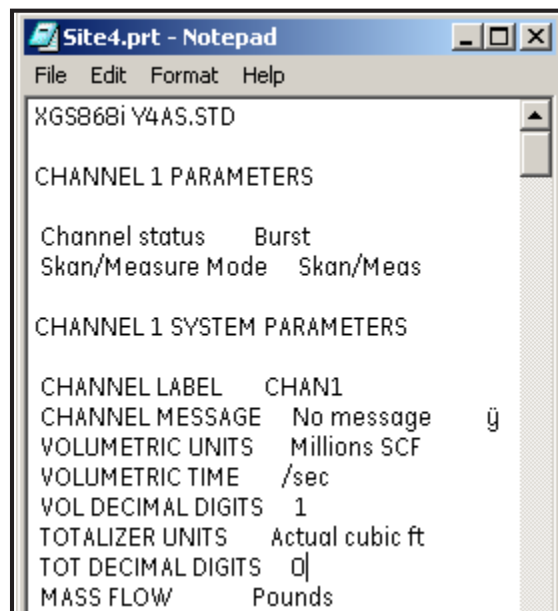
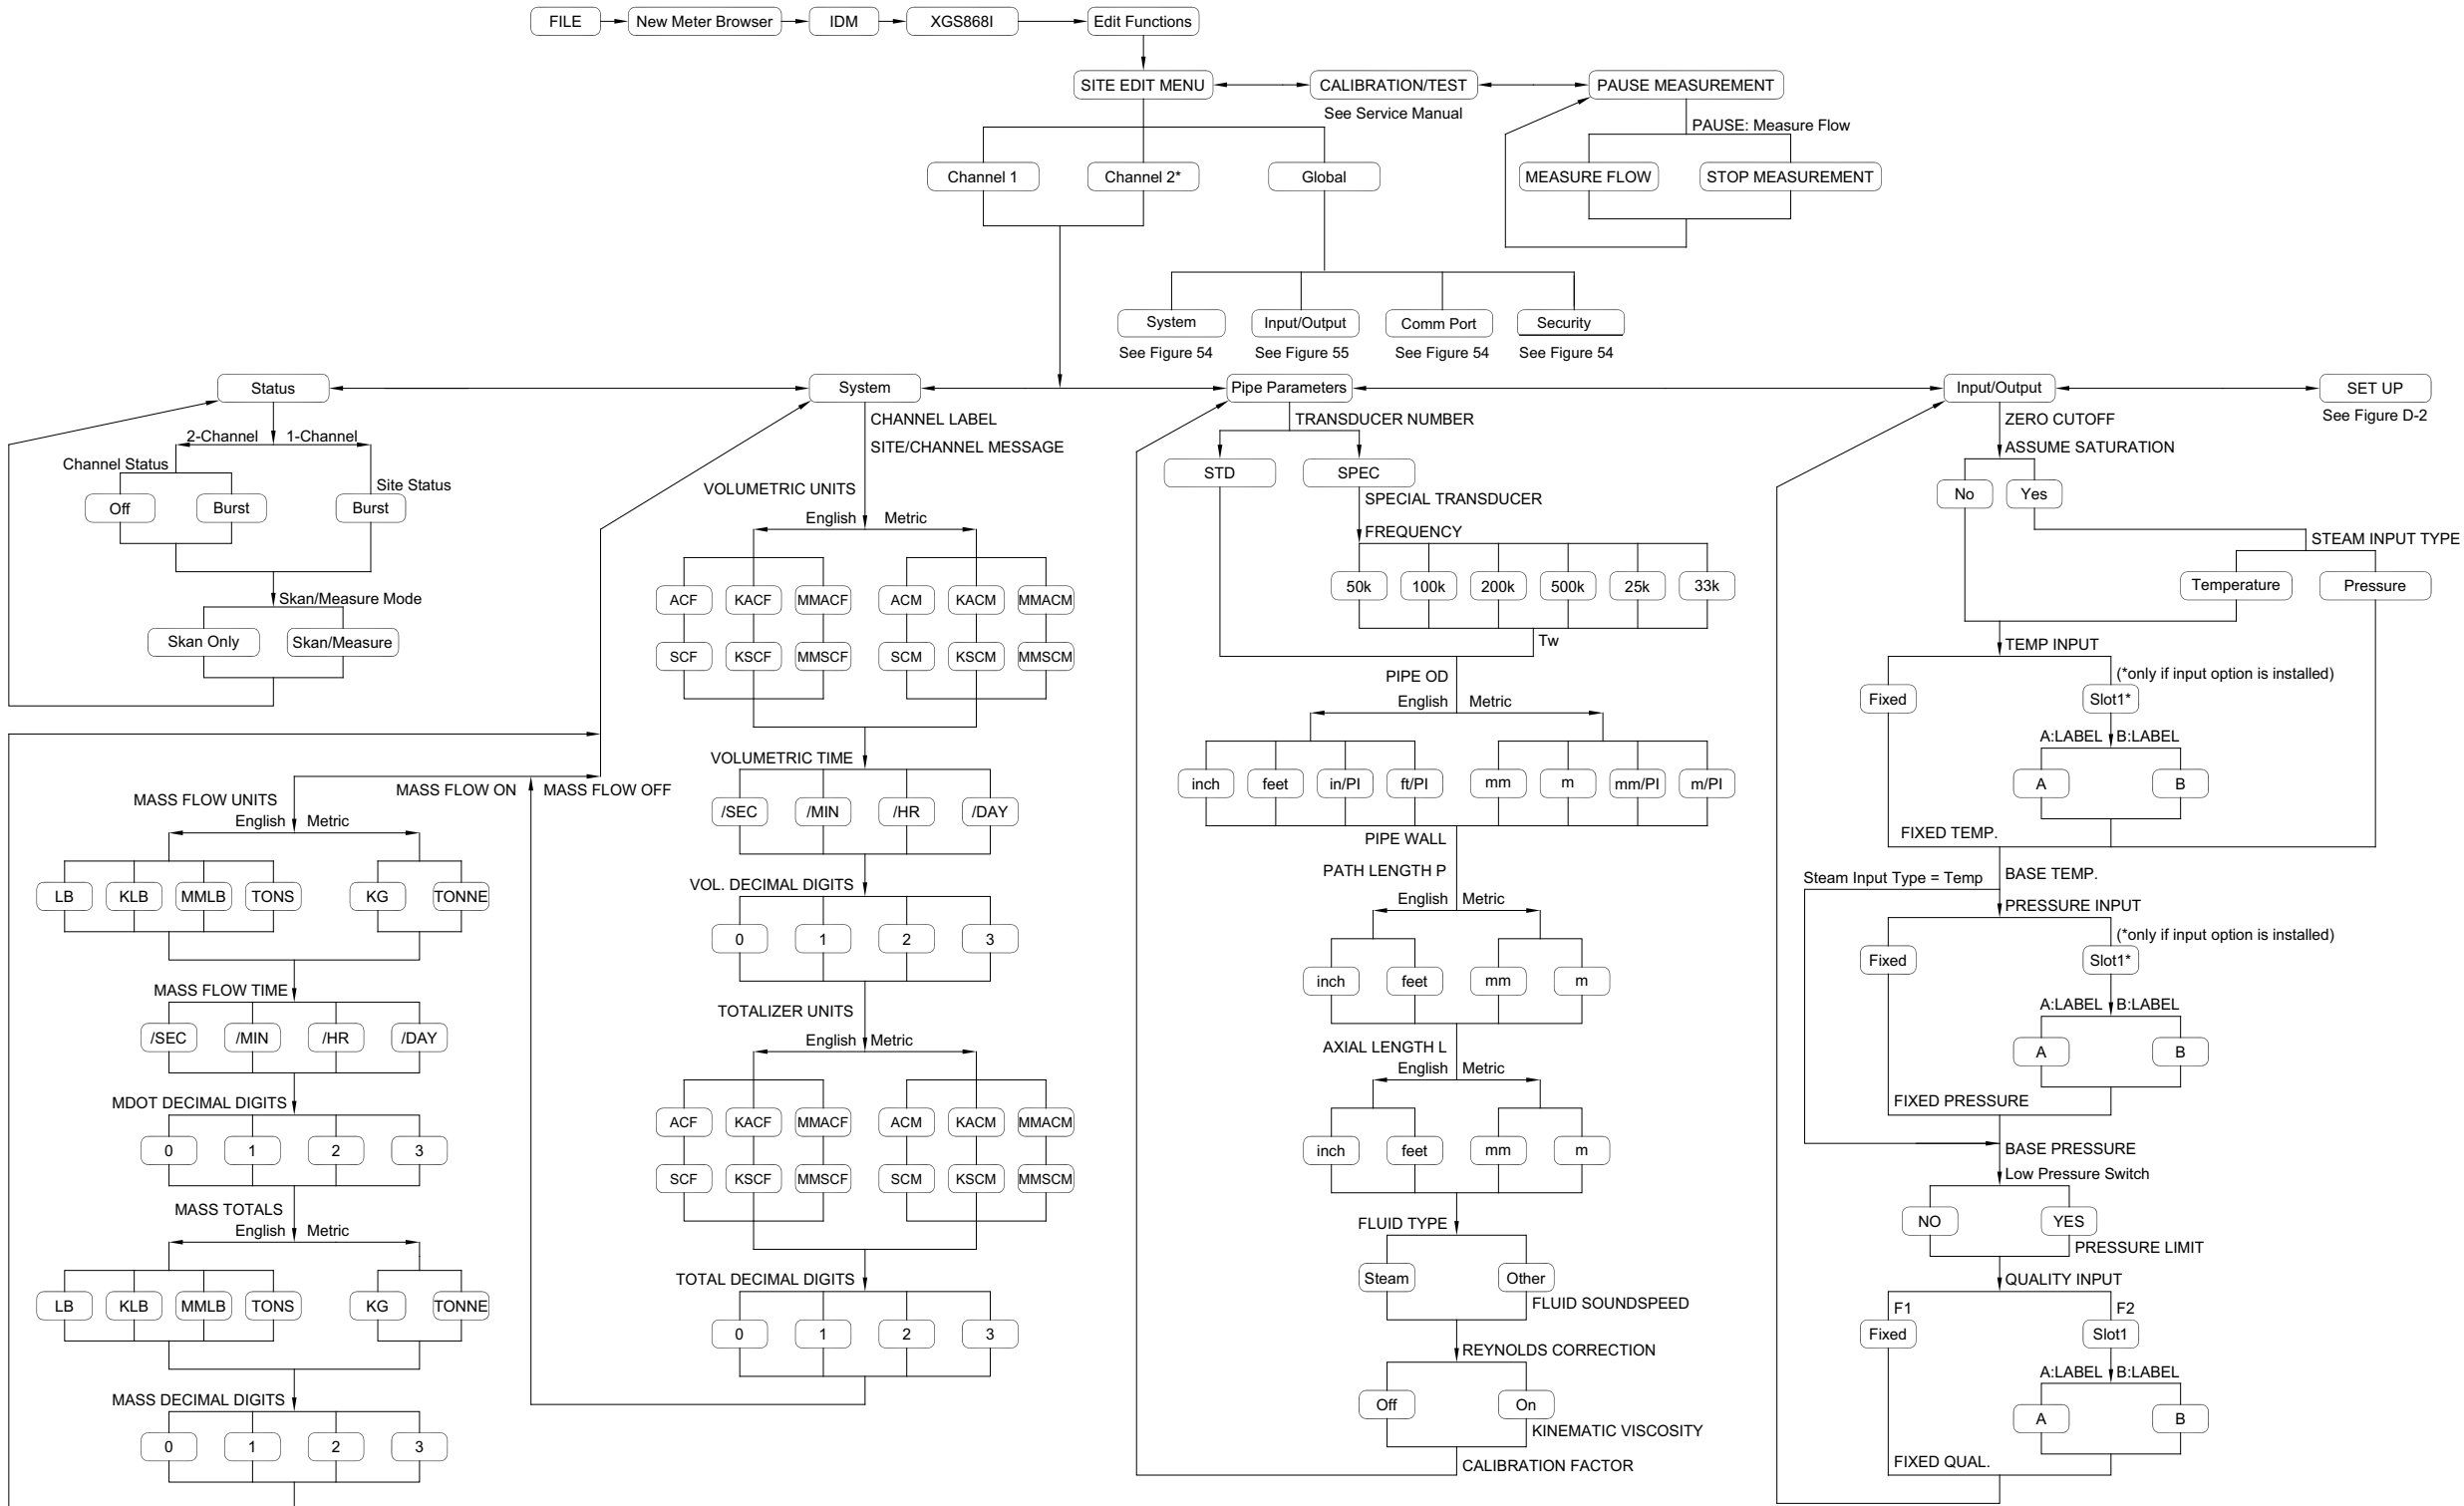

Figure 54: Printout of Site File
Figure 52: Channel X Menu - Status, System, Pipe and Input/Output Options
3. The *Site File Selection* window (shown in Figure 52 on page 133) opens. Enter the desired site name (now with a .prt suffix) and click on [Save]. PanaView displays a text version of the site, as shown in Figure 54.